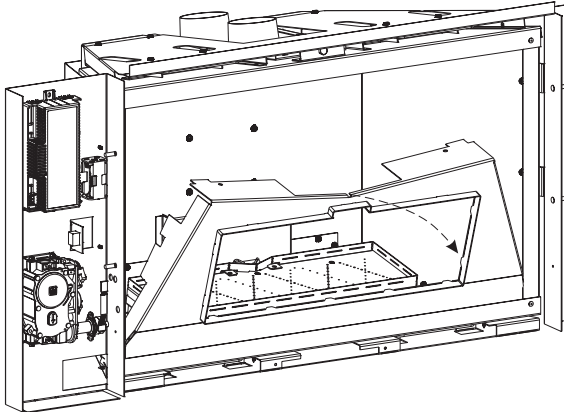

Figure 19
2. Tilt the burner cover out from the back past the front of the unit. Tilt the burner cover to the side and lift out. **See Figures 19 and 20.** Set the burner cover aside.